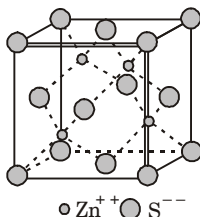

Fig. 8. Zinc blend structure.
1. (Fig. 8) shows the arrangement of Zn^{++} and S^{--} as they are tetrahedrally coordinated.